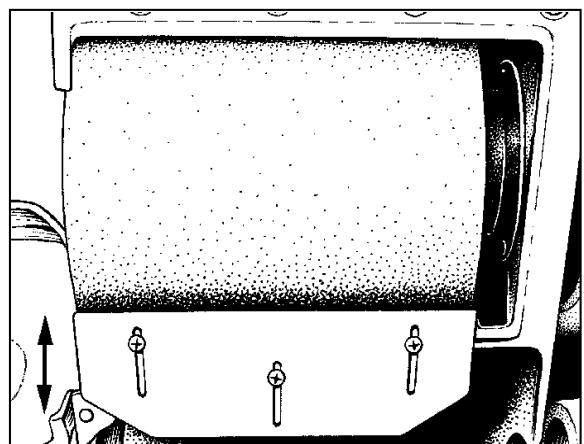

Figure 15
5. Align the dust shoe to the chassis and tighten screws. (See Figure 15)